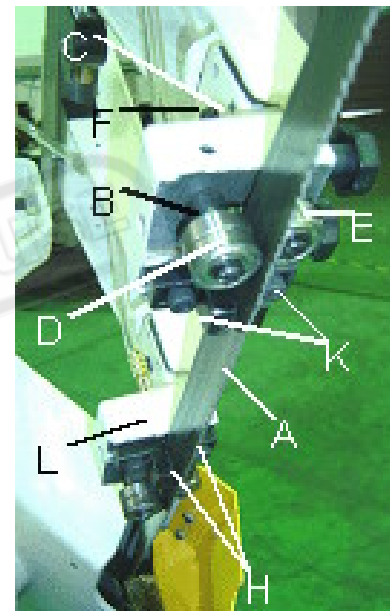

**Fig.17**
The stock advance stop is used mainly when more than one piece of work is to be cut to the same length. Simply position the stop (A) Fig. 17 the desired distance away from the blade. The stop may be repositioned by loosening lock screw (E) and moving the rod (C) in or out accordingly. Then tighten lock screw (&). Fine adjustment to the stop can be made by loosening nut (D) and turning stop screw (A). To move the stop (A) out of the way, loosen set screw (E) and move arm (F) to the down position.